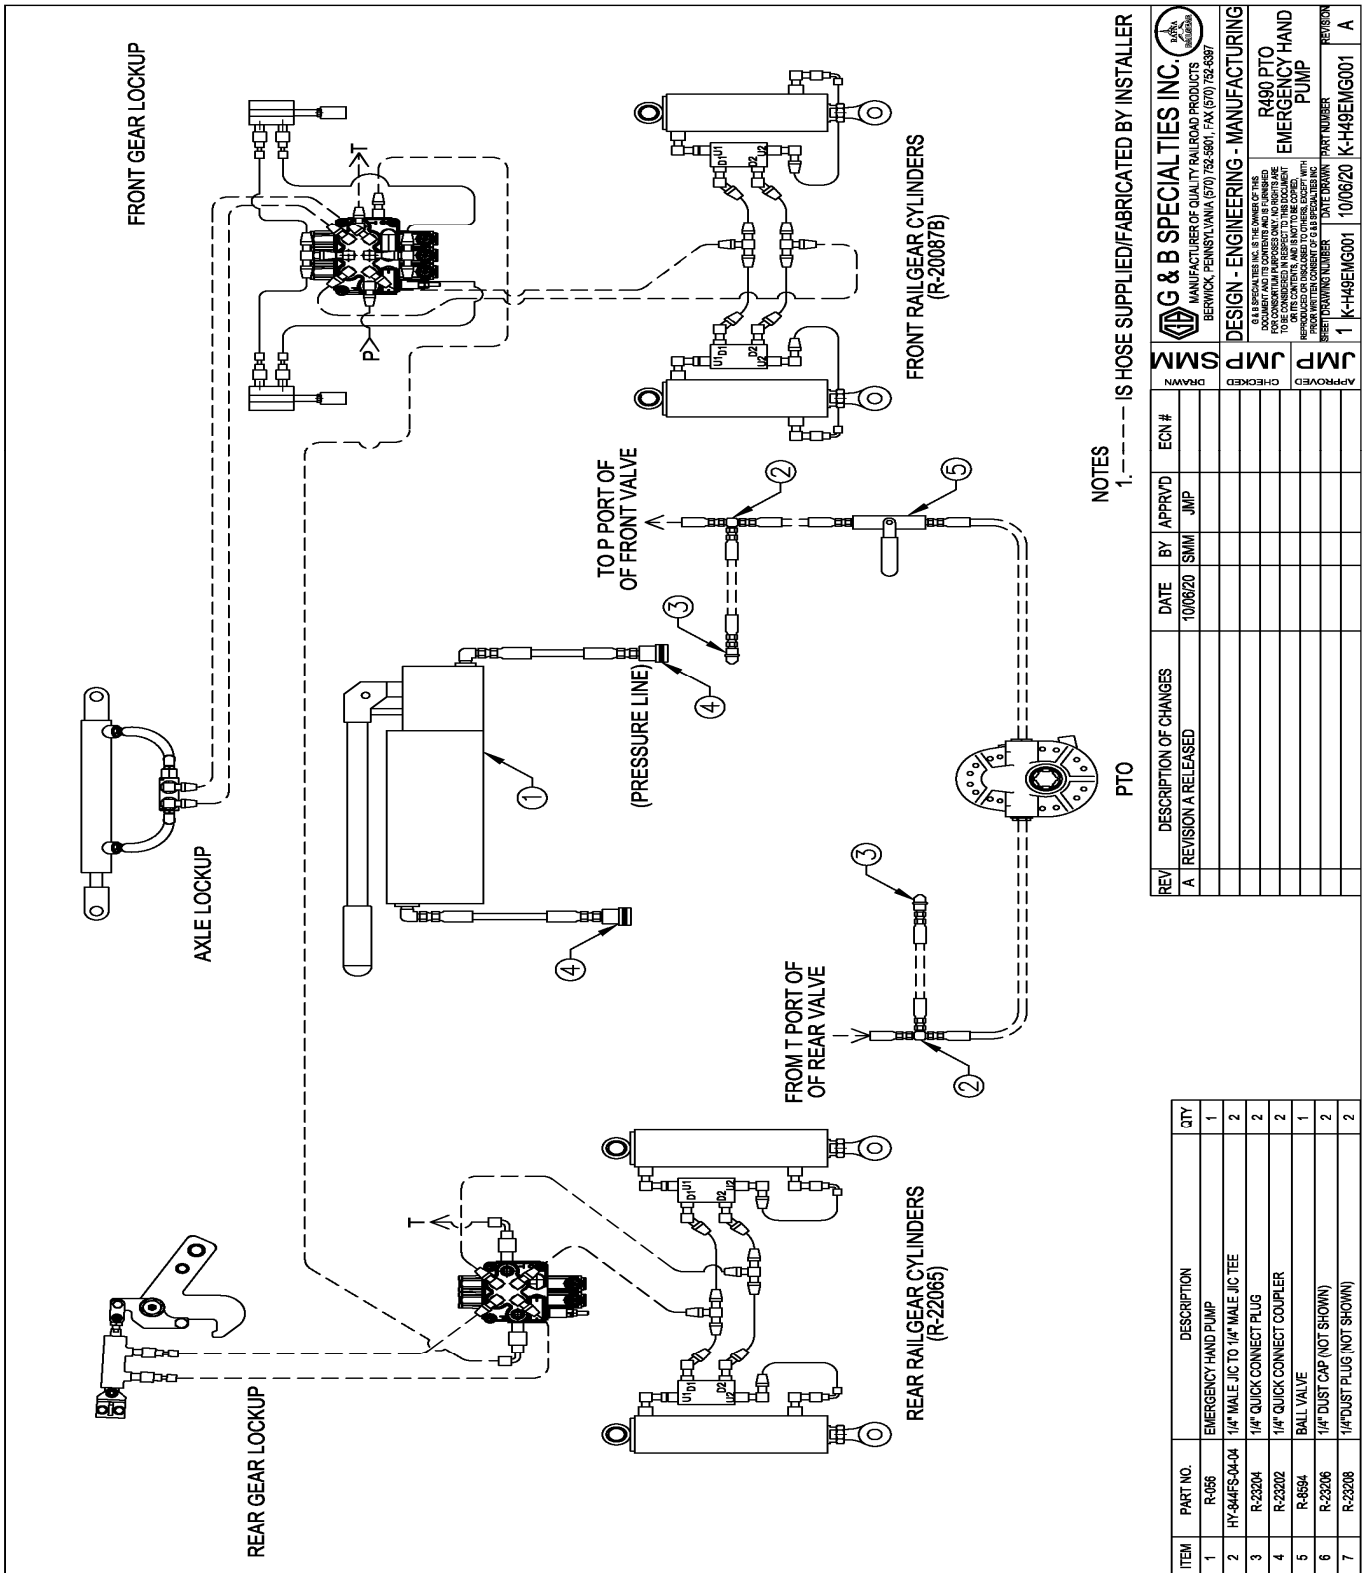

Figure 1: Emergency Hand Pump Schematic
1. The emergency hand pump quick connects and components must be installed in conjunction with the main hydraulic kit as order for the vehicle. Refer to the following hydraulic schematic for additional information. (Figure 1)
1. The emergency hand pump quick connects and components must be integrated into the existing hydraulics of the vehicle. Refer to the following hydraulic schematic for additional information. (Figure 1)